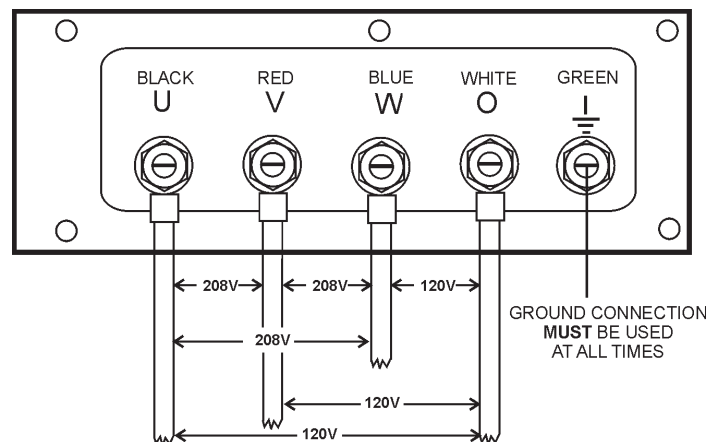

Figure 25. Output Terminal Lugs 3Ø-208/120V Connections
2. Connect the load wires to the **Output Terminal Lugs** as shown in Figure 25.